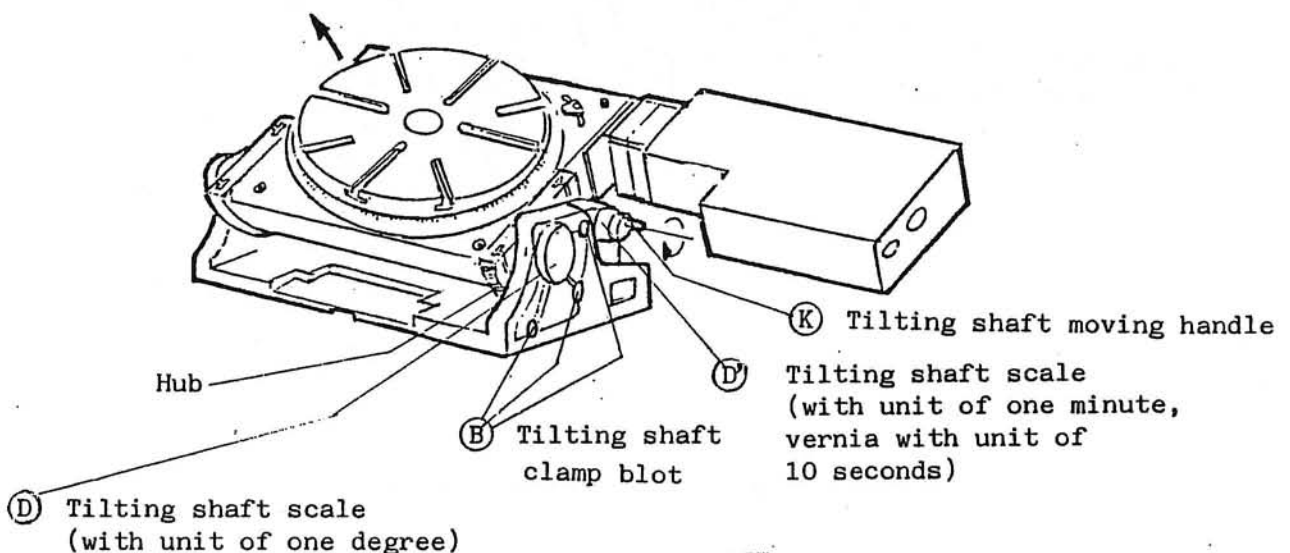

Fig. 6
Loosen the six tilting shaft clamp bolts (B) (either side) of Fig. 6 and the table can be moved toward vertical position when the tilting shaft moving handle (K) is turned clockwise, and it can be moved toward horizontal position when the handle is turned counterclockwise (one rotation of handle causes its movement of 2 degrees). The scale with unit of one degree is disposed at (D) part of Fig. 6 and the scale with unit of one minute is disposed at (D') part thereof respectively. Move the table to a proper position and tighten the six tilting shaft clamp bolt (B), thus the movement of the tilting shaft is completed.